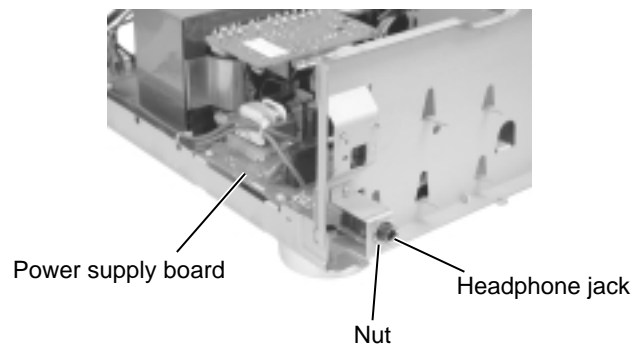

Fig.18
■ Removing the power supply board (See Fig.18 and 19)